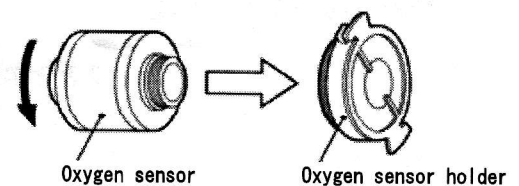

Fig.2
1. Assembling the oxygen sensor <Fig.2>